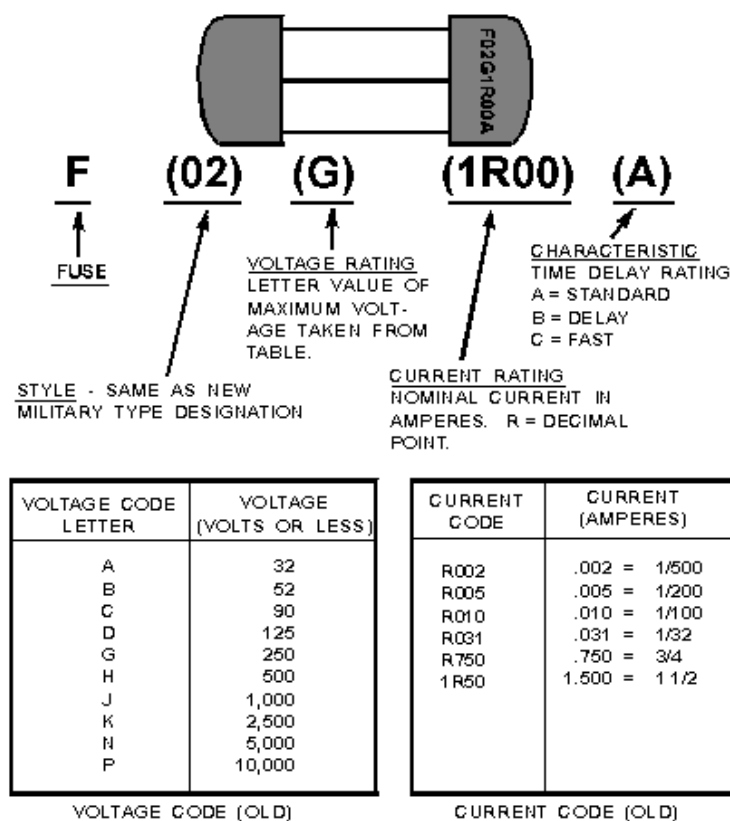
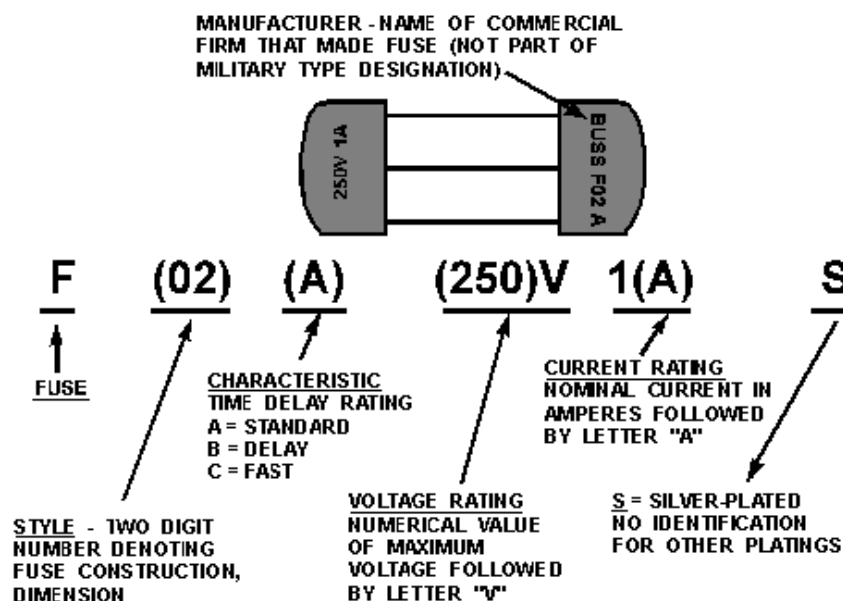
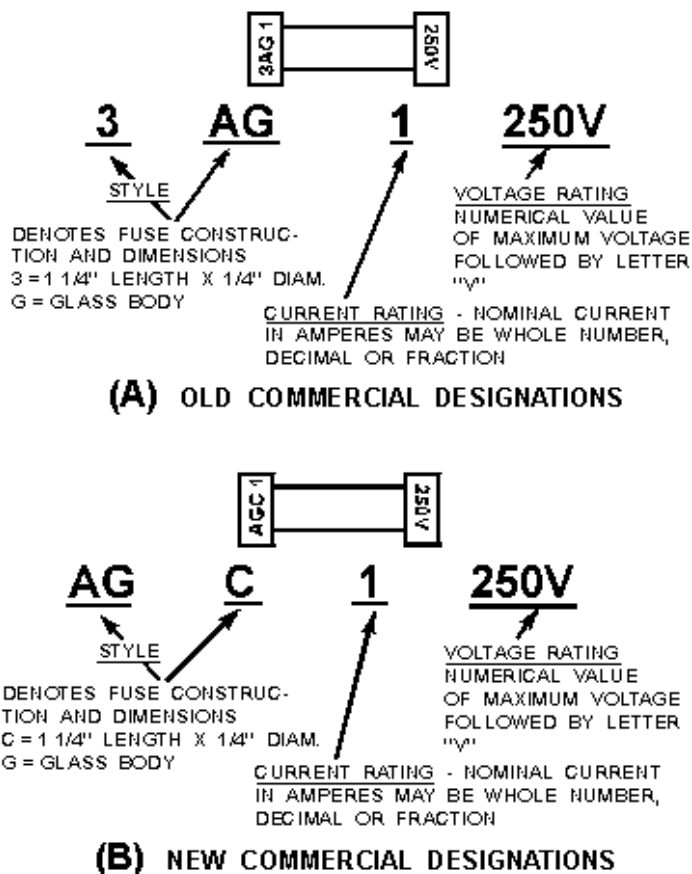

Figure 2-8.—Old type military fuse designation.
Figure 2-9.—New type military fuse designation.
Figure 2-10.—Commercial designations for fuses:
Figure 2-8 shows a fuse with the old military designation. The tables in the lower part of the figure show the voltage and current codes used in this system. The upper portion of the figure is the explanation of the old military designation. The numbers and letters in parentheses are the coding for the fuse shown in figure 2-8.
The old military designation always starts with "F," which stands for fuse. Next, the set of numbers (02) indicates the style. Style means the construction and dimensions (size) of the fuse. Following the style is a letter that represents the voltage rating of the fuse (G). The voltage code table in figure 2-8 shows each voltage rating letter and its meaning in volts. In the example shown, the voltage ratings is G,
which means the fuse should be used in a circuit where the voltage is 250 volts or less. After this is a set of three numbers and the letter "R," which represent the current rating of the fuse. The "R" indicates the decimal point. In the example shown, the current rating is 1R00 or 1.00 ampere. Some other examples of the current rating are shown in the current code table of figure 2-8. The final letter in the old military designation (A) indicates the time delay rating of the fuse.
Figure 2-9 is an example of a fuse coded in the new military designation. The fuse identified in the example in figure 2-9 is the same type as the fuse used as an example in figure 2-8.
You may find a fuse coded in one of the commercial designations. The commercial designations are fairly easy to understand and figure 2-10 shows the old and new commercial designations for the same type of fuse that was used in figures 2-8 and 2-9.
Figure 2-10, view A, shows the old commercial designation for a fuse. The first part of the designation is a combination of letters and numbers (three in all) that indicates the style and time delay characteristics. This part of the designation (3AG) is the information contained in the style and time delay rating portions of military designations.
In the example shown, the code 3AG represents the same information as the underlined portions of F02 G 1R00 A from figure 2-8 (Old Military Designation) and F02A 250VIAS from figure 2-9 (New Military Designation). The only way to know the time delay rating of this fuse is to look it up in the manufacturer's catalog or in a cross-reference listing to find the military designation. The catalog will tell you the physical size, the material from which the fuse is constructed, and the time delay rating of the fuse. A 3AG fuse is a glass-bodied fuse, 1/4 inch  $\times$  1 1/4 inches (6.35 millimeters  $\times$  31.8 millimeters) and has a standard time delay rating.
Figure 2-10, view B, shows the new commercial designation for fuses. It is the same as the old commercial designation except for the style portion of the coding. In the old commercial system, the style was a combination of letters and numbers. In the new commercial system, only letters are used. In the example shown, 3AG in the old system becomes AGC in the new system. Since "C" is the third letter of the alphabet, it is used instead of the "3" used in the old system. Once again, the only way to find out the time delay rating is to look up this coding in the manufacturer's catalog or to use a cross-reference listing. The remainder of the new commercial designation is exactly the same as the old commercial designation.